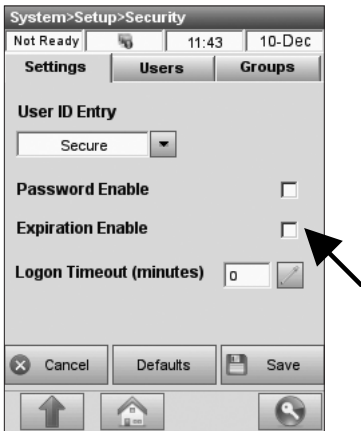

Fig. 3-56 Expiration
- **<Expiration Enable>** (Fig. 3-56) allows an administrator to set an expiration date for each user ID.
- **<Logon Timeout>** (Fig. 3-56). When security is enabled, users must log in to the analyzer. When they are finished, they must either log off using the **<Log Off>** button  in the bottom right corner, or the analyzer can be set to log off automatically after a set number of minutes of idle time. Set the **<Logon Timeout>** to 0 to disable it.